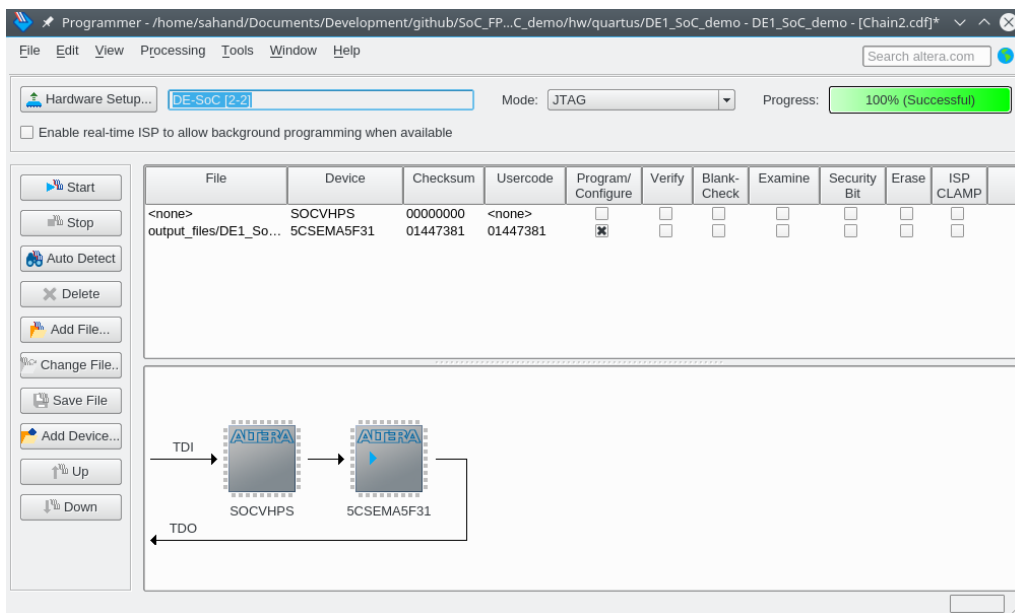

Figure 9-23. Programming the FPGA
45. Enable the “Program/Configure” checkbox for device “5CSEMA5F31”, then press the “Start” button, as shown in Figure 9-23.